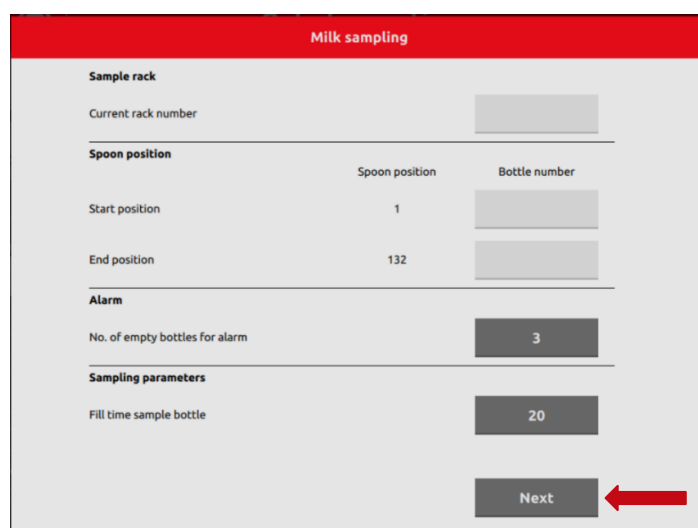

Figure 32. Milk sampling menu
6. View of settings, click on Next, see the figure 32